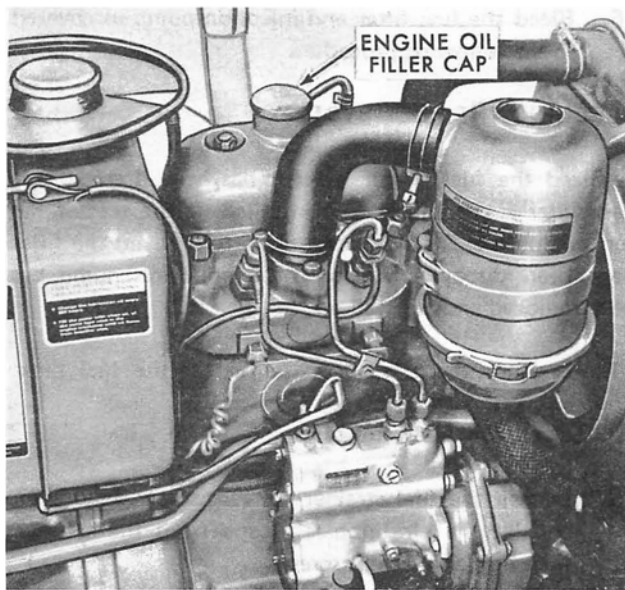

Figure 23
2. If the oil level is low, remove the filler cap, Figure 23, and add oil to the engine through the filler hole in the rocker cover to bring the oil level between the marks on the dipstick. Be careful not to over-fill.